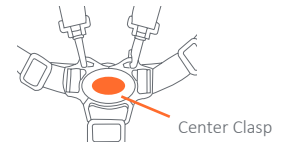

Fig. 14
- 14) • To release, push Button on Center Clasp, the two Harness Buckles will pop free (Fig. 14).